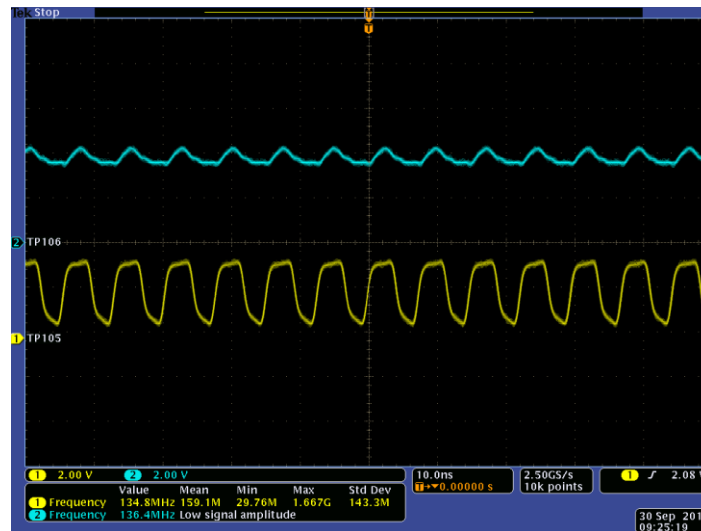

Figure 4.11. Output Clocks with Different Slew Rate (Frequency Setting is 133.0 MHz)
5. After the programming is successfully completed, you can use oscilloscope to probe **TP105** and **TP106** again. Different clock waveforms are shown as Figure 4.11. With high output clock frequency, **TP105** shows good clock waveform with FAST Slew Rate. **TP106**, however, is not good with SLOW Slew Rate setting.